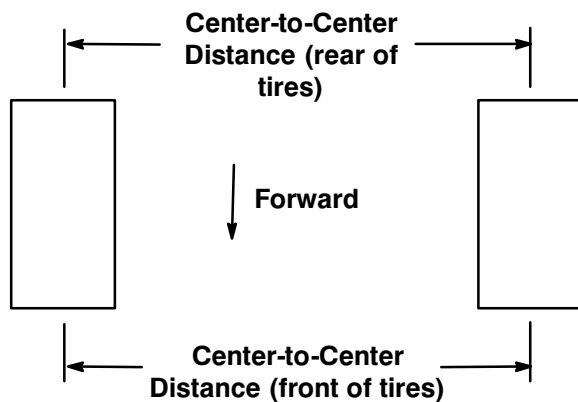

Figure 27
- Measure the distance between both of the front tires at axle height (at the front and rear of the wheels) (Fig. 27). Front measurement must be equal to the rear measurement $\pm 1/4$ in.